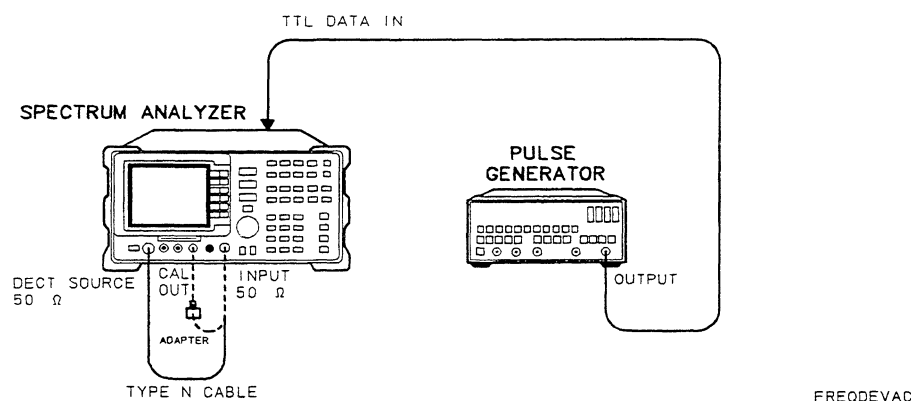

Figure 9-12. Frequency Deviation Accuracy Test Setup
1. Connect the 23 cm BNC cable between the DECT SOURCE 50 Ω and INPUT 50 Ω connectors on the spectrum analyzer, using the N(m) to BNC(f) adapters. Refer to Figure 9-12.
7. Connect a BNC cable between the CAL OUT and INPUT 50 Ω connectors on the spectrum analyzer. Refer to Figure 9-12.
11. Connect the 23 cm BNC cable between the DECT SOURCE 50 Ω and INPUT 50 Ω connectors on the spectrum analyzer, using the N(m) to BNC(f) adapters. Refer to Figure 9-12.